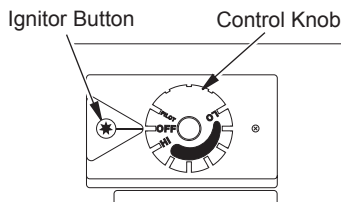

Figure 29 - Control Knob In The OFF Position
5. Turn control knob counterclockwise to the PILOT position. Press in control knob for five (5) seconds (see Figure 29).